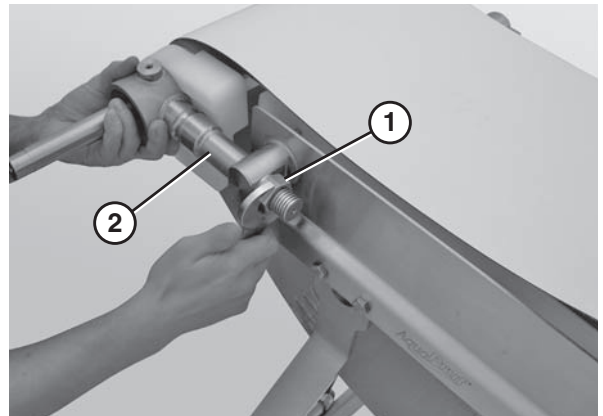

Figure 61
5. Remove the back nut (**Figure 61, item 1**) on both drive tail shafts (**Figure 61, item 2**).